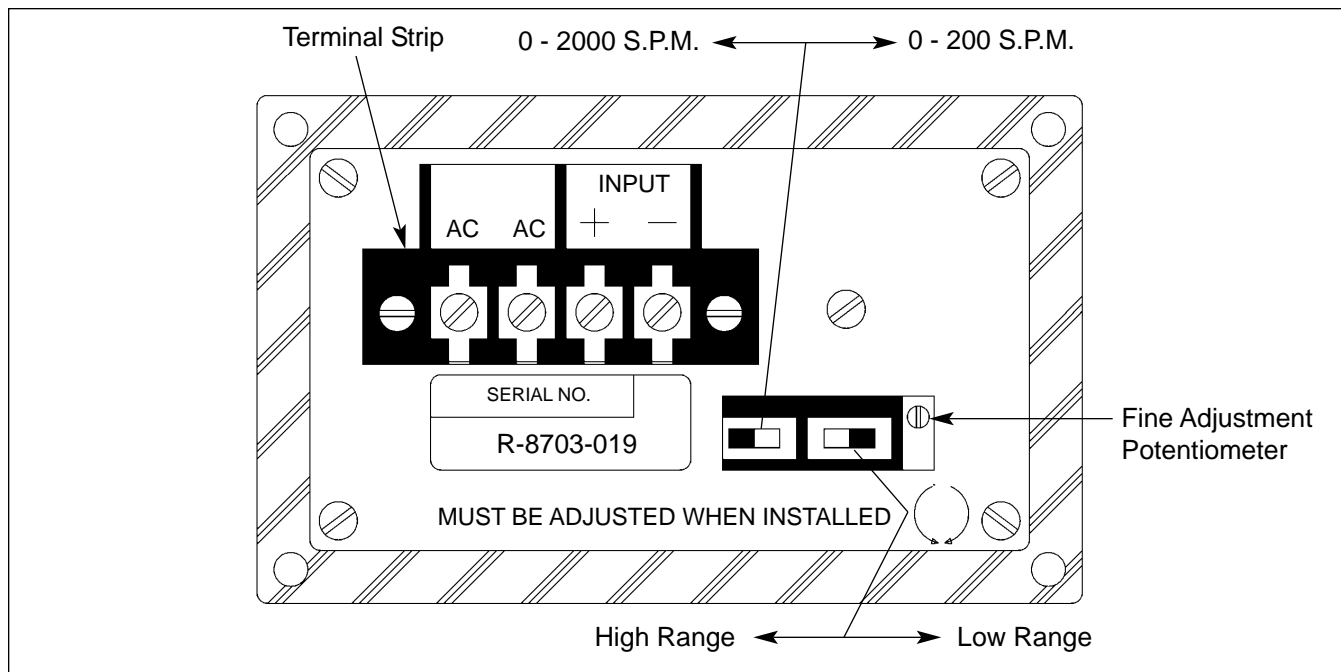

Figure 5C. Rear view of Digital Speed Meter.
1. Set the 0-200/0-2000 Switch to the correct range position. (See Figure 5C for switch location.) If maximum speed of the press is 200 S.P.M. or less, place the switch in the 0-200 position. If the maximum press speed exceeds 200 S.P.M., place the switch in the 0-2000 position. (This moves placement of readouts decimal point.)
2. The High/Low Range Switch extends the range or gain of the fine-adjustment potentiometer and should be used as necessary to achieve correct readout of the press speed. (See Figure 5C.)